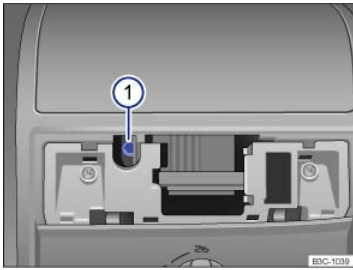

Fig. 174 Hexagonal head screw for closing the power sunroof.
- Insert a commercially available 1/6 in (4 mm) Allen wrench¹⁾ into the hexagonal head screw ⇒ Fig. 174①.